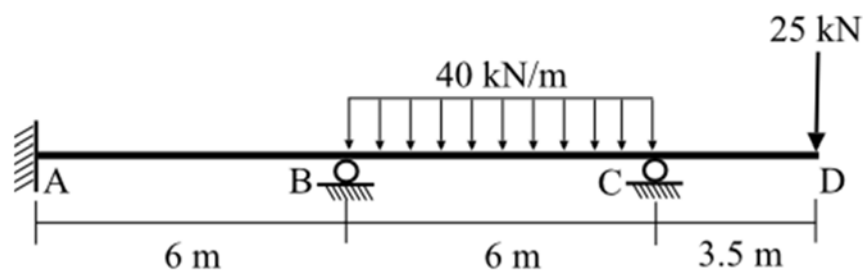

Figure 4 / Rajah 4
4. **Figure 4** shows a beam carrying a uniformly distributed load of 40 kN/m for span BC and a point load of 25 kN at the end of cantilever CD. Support A is fixed, whereas supports B and C are roller. Assume EI is constant for the beam.